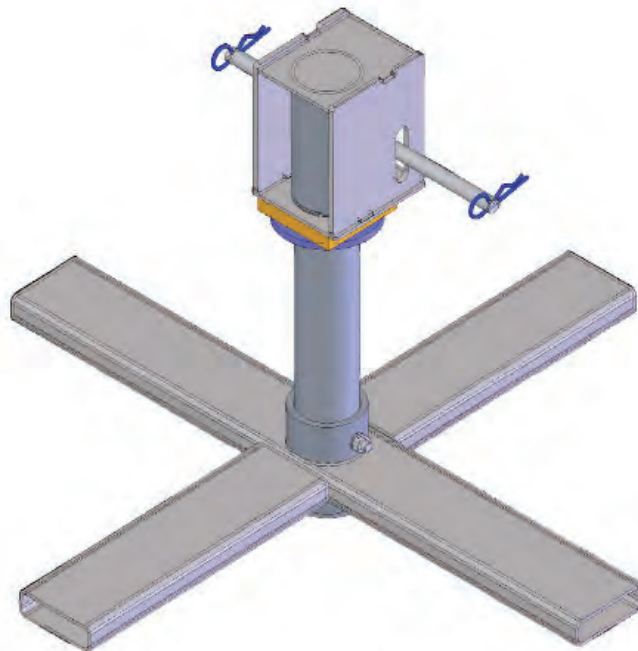

Figure 4-6: Base Pivot Kit without Collector Ring
- Base Pivot Kit without Collector Ring:** If the Base Pivot Kit is used and a collector ring is not, then this package provides an adapter to fit into the Base Pivot Kit and provides a place to pin the head of the sweep. See Figure 4-6.